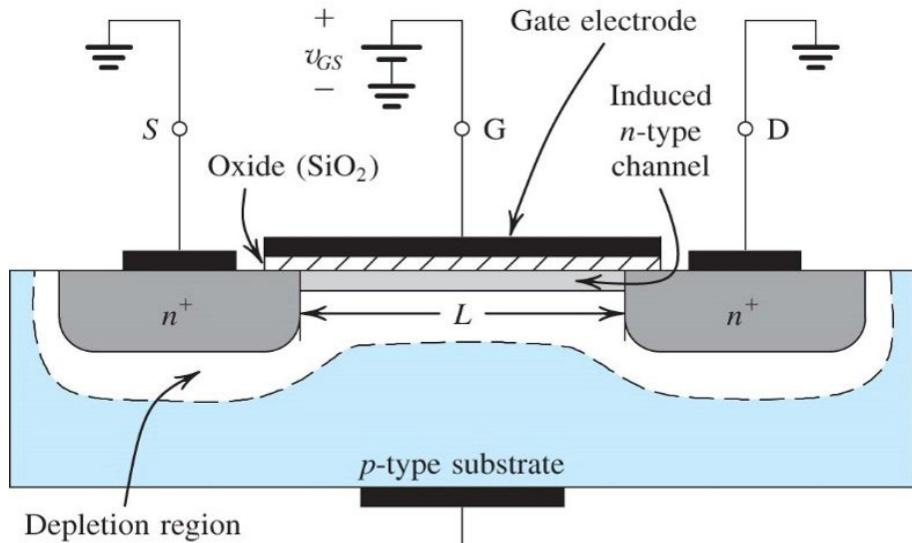

Figure 4: Enhancement-type NMOS transistor with a positive V_{GS} .
- Dimension of the Gate along the Source-Drain path is called the Length, (L). The width, (W), is perpendicular to the length.
- If a positive voltage, V_{GS} applied to the gate and Source, Body and Drain all grounded (see Figure 4):